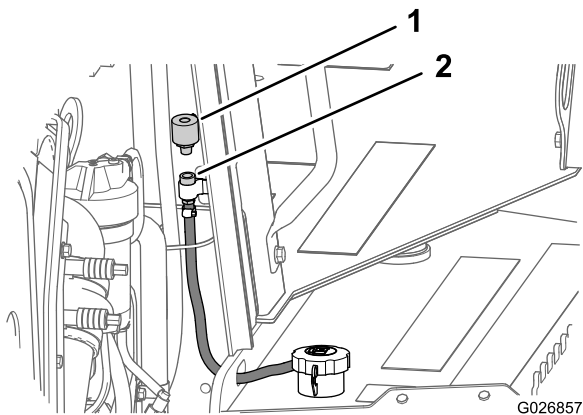

Figure 73
2. At the forward side of the engine compartment panel, remove the breather from the pipe coupling by rotating the breather counterclockwise (Figure 73).
3. Install a new breather into the pipe coupling hand tight (Figure 73).